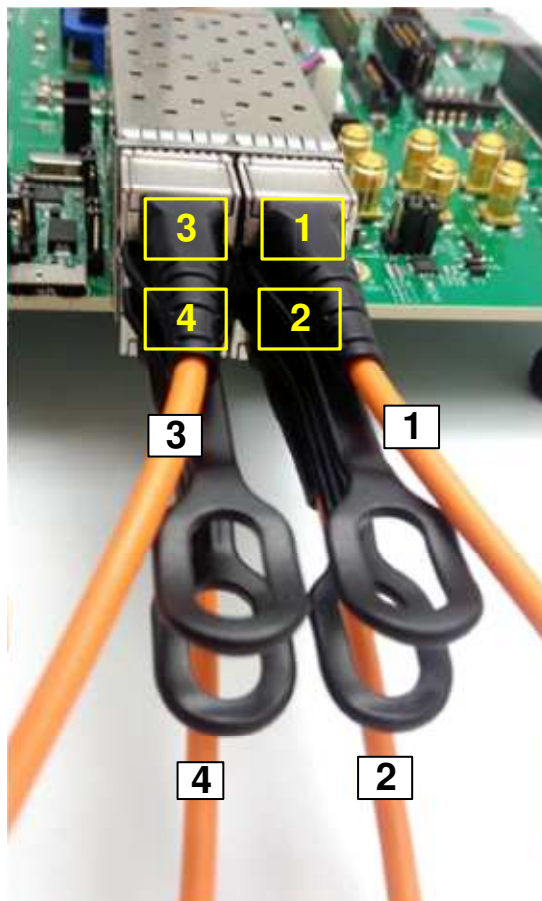

Figure 4-3 Four SFP+ cable connecting to ZCU102 board
- a) For ZCU102, insert four SFP+ cable to SFP+ on board. Please check channel number of four cables to match with Figure 4-3.